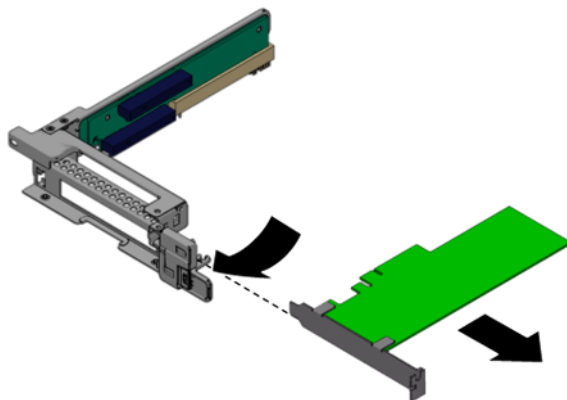

FIGURE 4-6 Removing a PCIe Card
3. Unlatch the PCIe card and remove the card from the PCIe card riser assembly connector. See FIGURE 4-6.